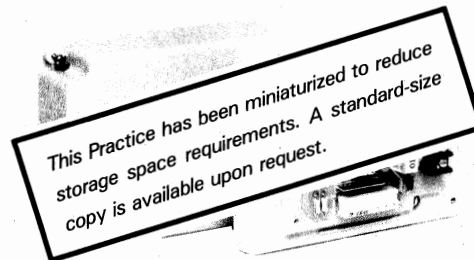

Figure 1. 7480-03 2-Wire CSU Interface
1.01 This Practice provides circuit description, installation procedures, and basic testing information for the Wescom 7480-03 2-Wire Customer Service Unit (CSU) Interface, shown in Figure 1.